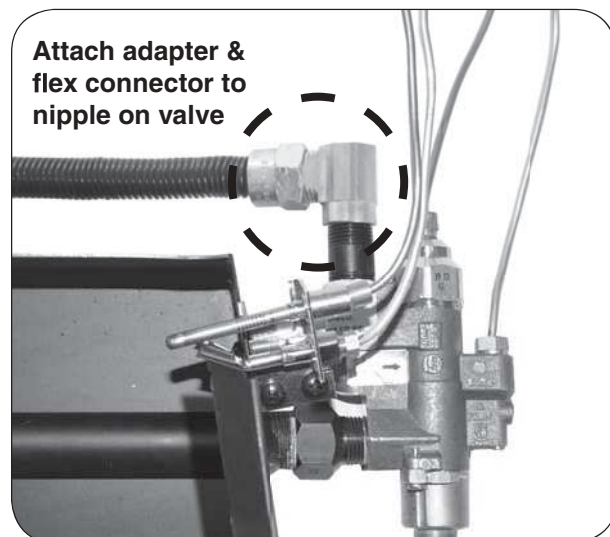

Fig. 7-1 Install flex connector to valve
3. Attach the small adapter (included with burner flex connector kit) to the gas nipple on the control valve using a pipe compound resistant to all gasses. Tighten securely. Then attach one end of the connector to the small adapter. Tighten securely. See Fig. 7-1.